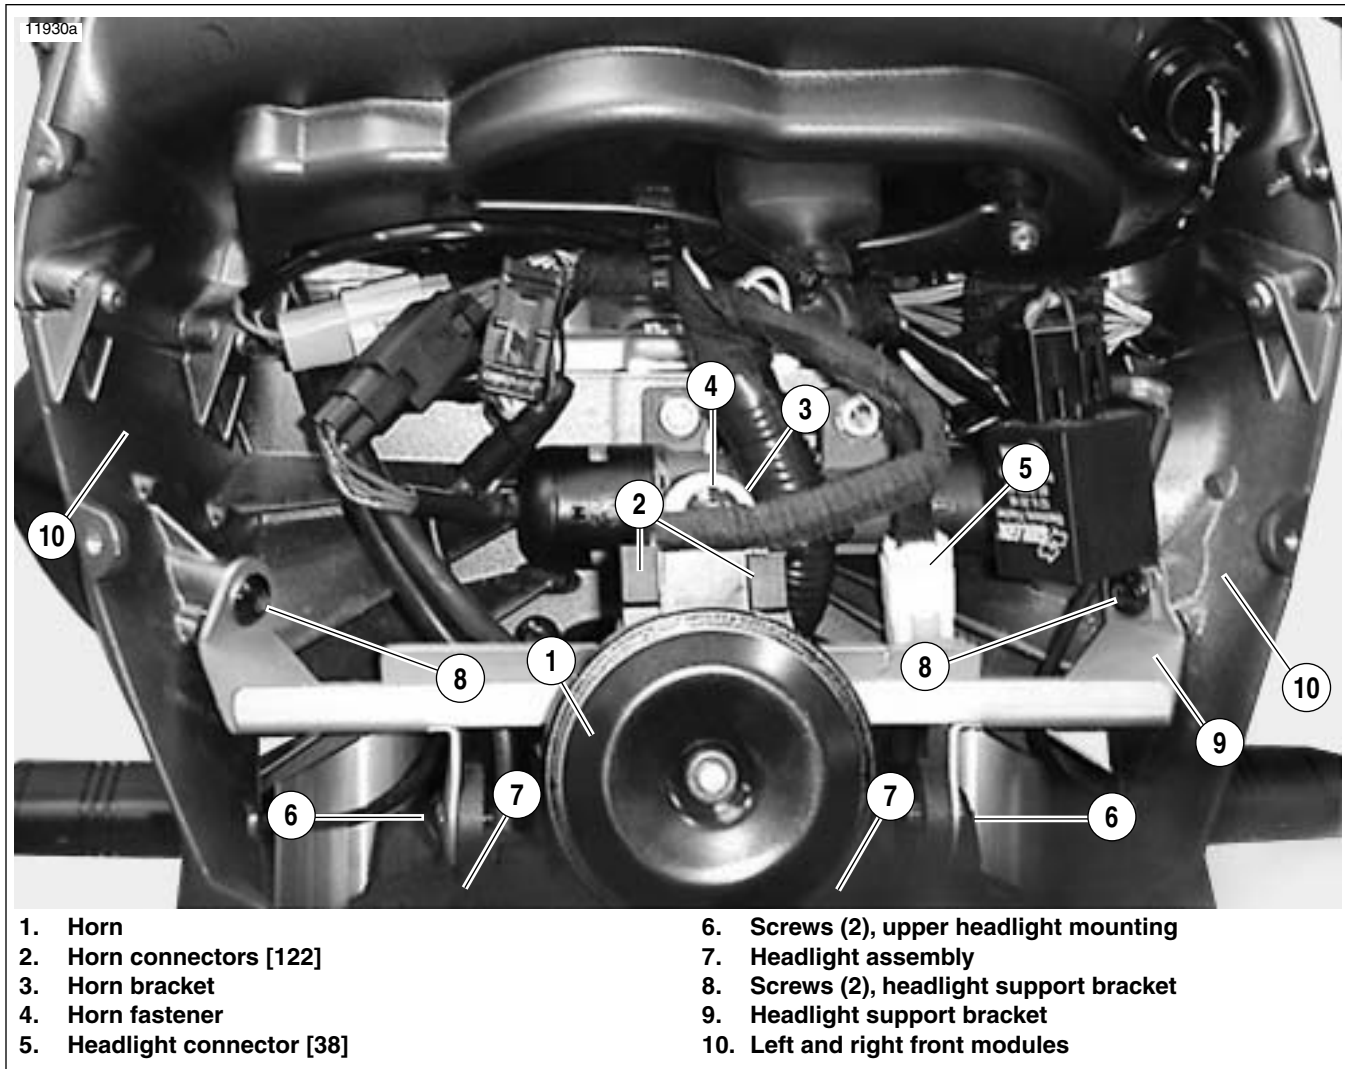

Figure 2-110. Headlight and Support Bracket
1. See Figure 2-110. Install headlight support bracket (9).
2. Apply LOCTITE 272 (red) and install fasteners (8) securing headlight support bracket/turn signal flasher to left and right front modules (10) and tighten to 48-72 **in-lbs** (5.4-8.1 Nm).
- a. Install headlight assembly (7) into headlight support bracket (9).
- b. Install both upper headlight fasteners (6) but do not tighten.
5. Connect headlight connector [38] (5).
6. Install horn (1) and tighten fastener (4) to 36-60 **in-lbs** (4-6.7 Nm).
7. Connect horn connectors [122] (2).